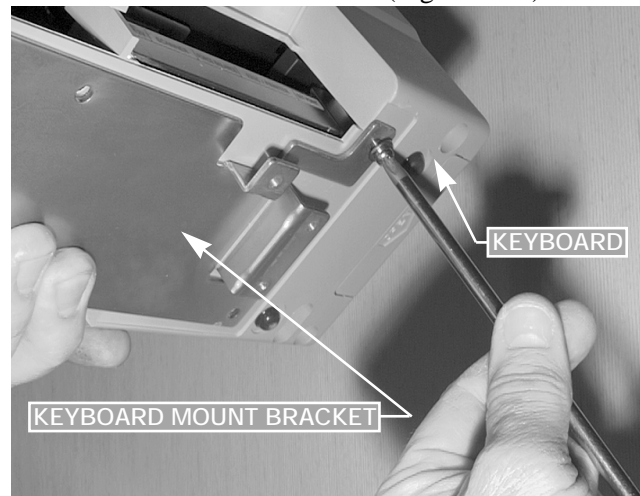

Figure 2-10. Attach Keyboard to Pole Mount Assembly
6. Mount keyboard on bracket using six 4 mm x 10 mm machine screws (Figure 2-10).